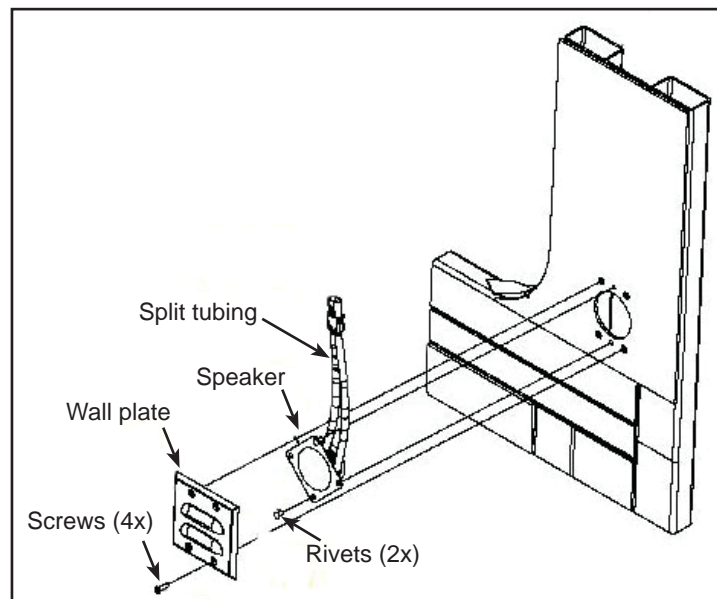

Figure 2 - Speaker Assembly
1.2. Remove the speaker wall plate screws (4x). Discard the wall plate. Retain the screws. See Figure 2.
- 1.5. Remove the split tubing around the speaker cable. See Figure 2. Retain the tubing.